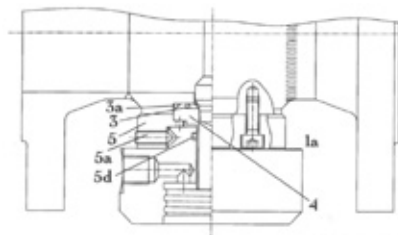
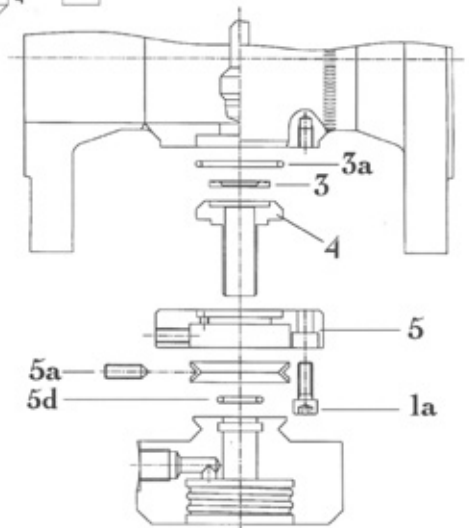

Figure 7
Figure 8
- 2 *Flanged body design (see Fig. 7 and Fig. 8)*